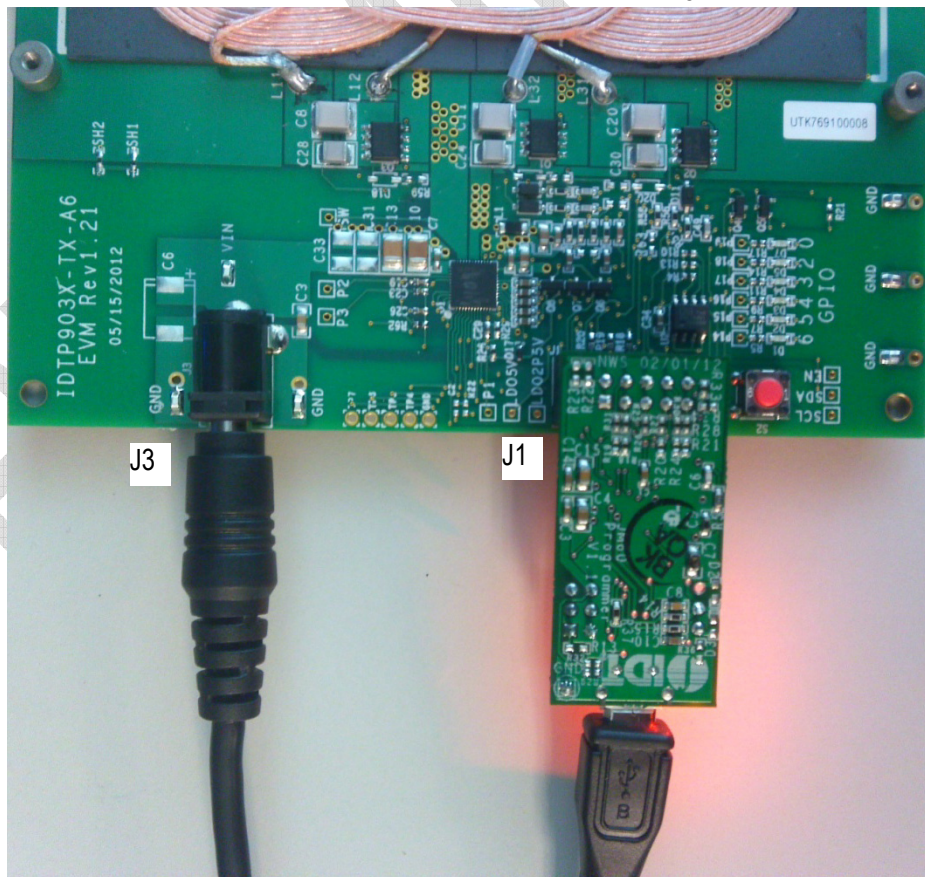

Figure 18. IDTP9036A-EVAL JM60, AC Adaptor connections.
2. Connect the JM60 to the connector of the IDTP9036A-TX-A6 EVM board (J1 Figure 18).
3. Plug the AC adapter into the wall (120 VAC) and connect the other end (12 VDC) into the adapter plug on the EVM board (J3 Figure 18).